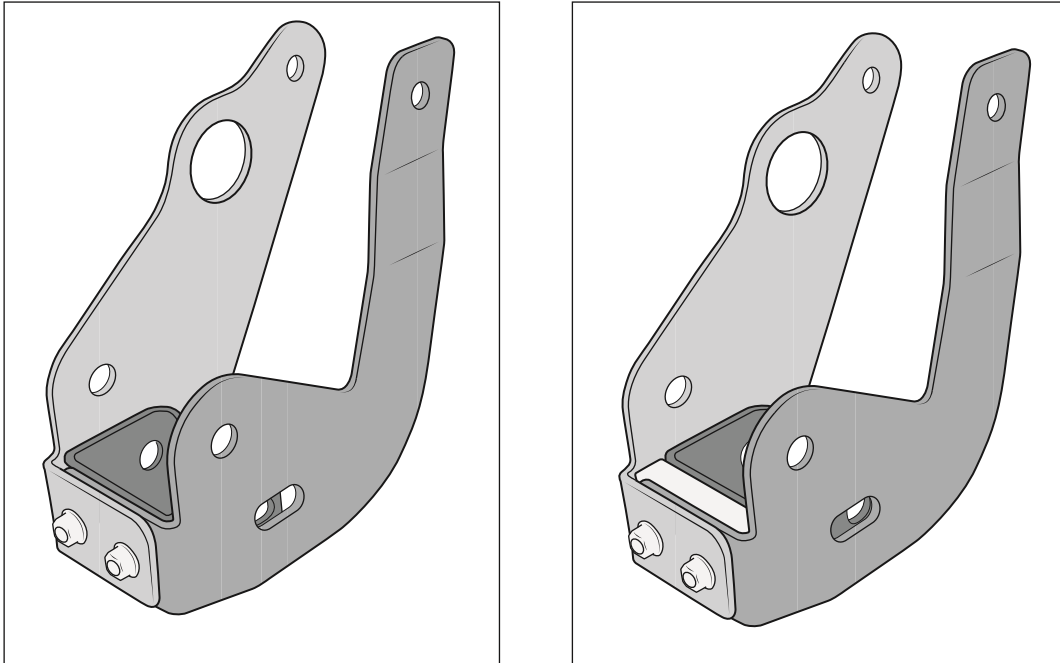

Figure 9 Left: 37" Tires Right: 40" tires
A. Preassemble the AEV radius arm brackets using M10 x 45 Carriage Bolts, M10 Flat Washers and Nuts (Fig. 9). Note the additional spacer for 40" tire applications.